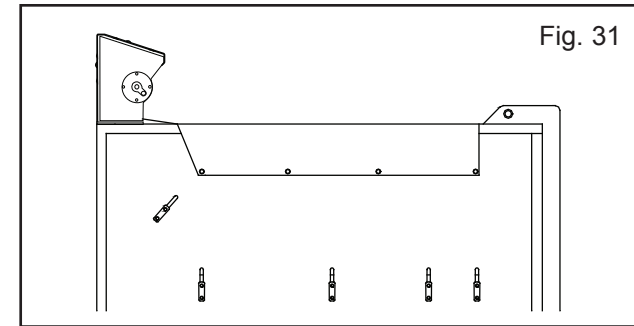

Fig. 31
- Position the first hook 6" (15.24cm) down and 12" (30.48cm) forward (toward the cab) from the first grommet (Fig. 31).